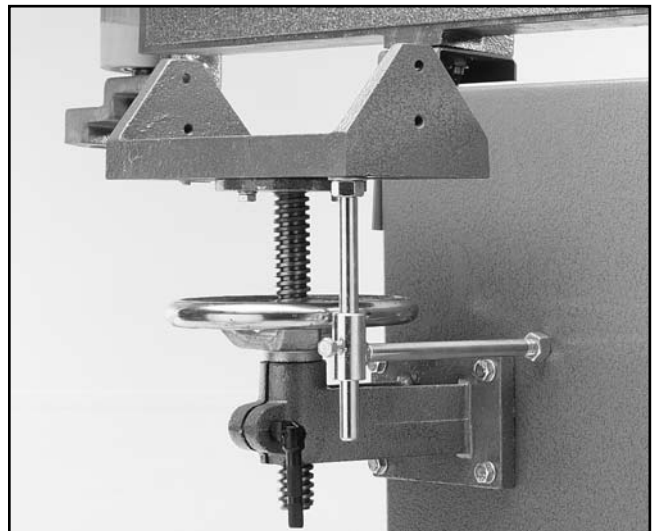

Figure 7. Horizontal / vertical brace installed.
5. Install the hex nut and washer provided, and screw on until ½" of the threaded end is visible above the washer. Insert the threaded end of the vertical brace through the hole in the bottom of the table bracket and re-install the flat washer and hex nut back onto the shaft. **See Figure 7.**